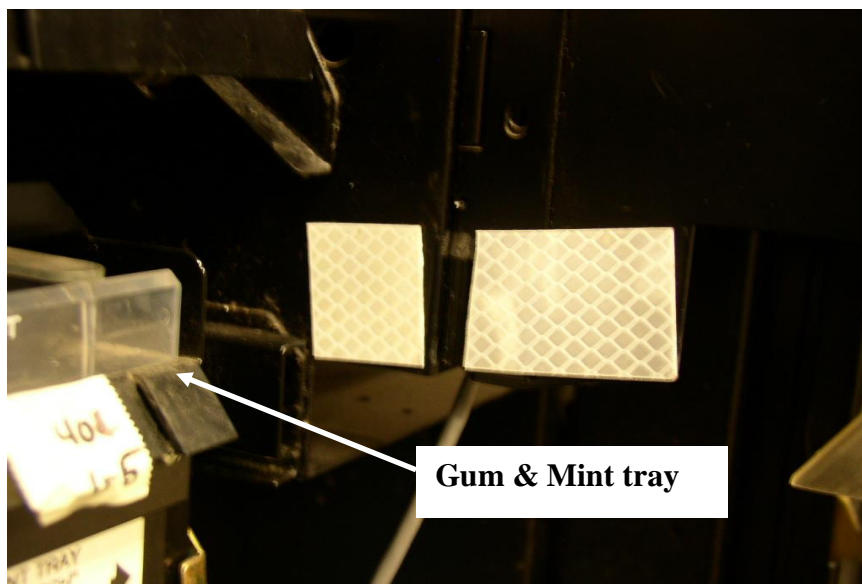

Figure 6 (Typical representation)
9) Install two small pieces of reflective tape to lower edge of roller guide, one on each side of hinge. **(Figure 6)**